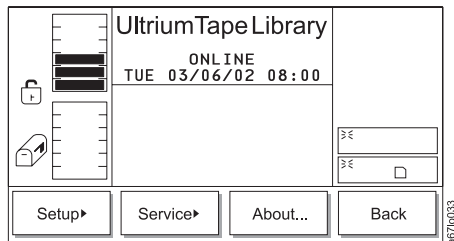

Figure 4-198. Main Menu (alternate screen)
1. From the Main Menu's initial screen, press the button below the **More** softkey. The Main Menu's alternate screen displays (see Figure 4-198).